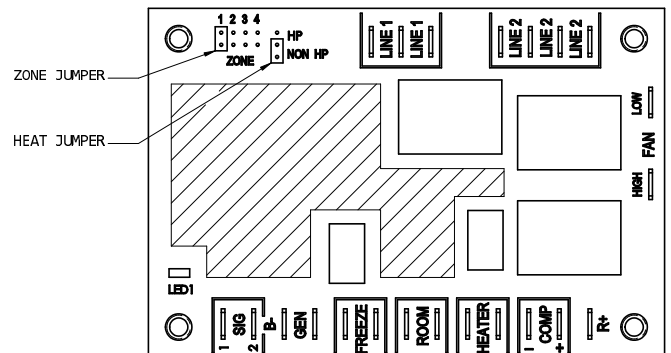

FIGURE 2
2. Set the "zone" jumper to the proper zone position for the particular position the air conditioner or heat pump will be in the coach (Refer to Figure 2 – Zone 1 is shown). Zones should be numbered from the front to the back of the coach with Zone 1 in front.
3. Set the "HP"/"NON HP" jumper to "HP" if the unit is a heat pump or to "NON HP" if the unit is not a heat pump (Refer to Figure 2 – Non HP is shown).